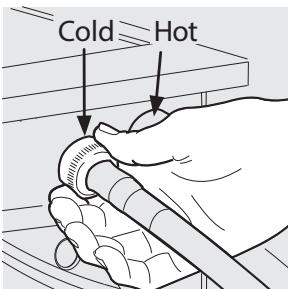

Fig. 3
- Connect the HOT inlet hose (color: red) to the HOT inlet connection on the washer and the COLD inlet hose to the COLD inlet connection (color: blue) on the washer. (Fig. 3).